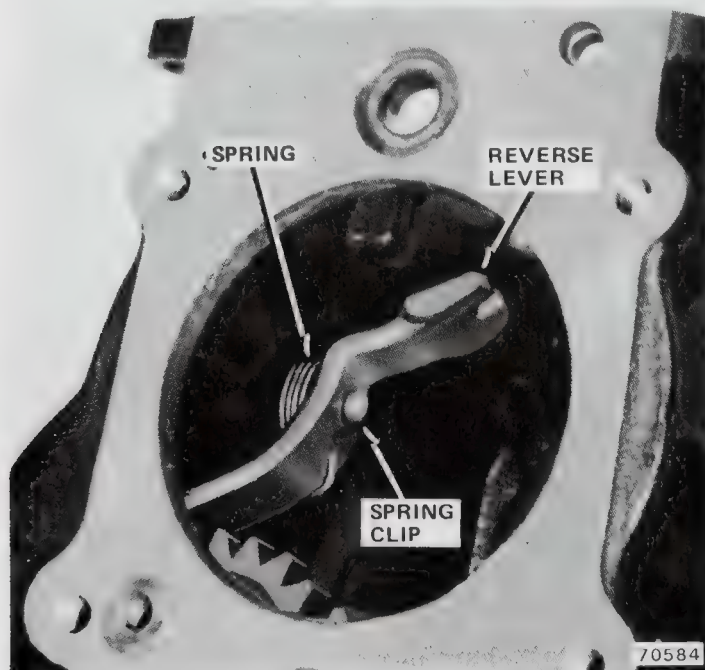

Fig. 2B-56 Reverse Lever, Spring Clip, and Spring Position
(1) Remove fourth gear blocking ring from third-fourth synchronizer.
(2) Remove output shaft rear snap ring using needlenose pliers (fig. 2B-57).